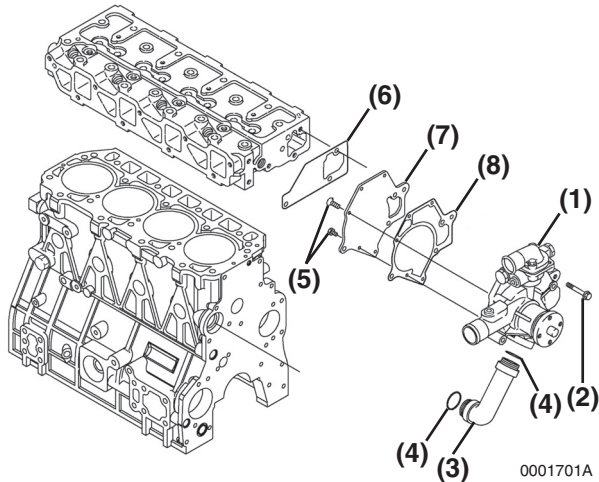

Figure 8-11
2. Remove coolant pump pipe (**Figure 8-11, (3)**) from engine block. Discard the O-rings (**Figure 8-11, (4)**).
3. Remove the bolts (**Figure 8-11, (5)**) holding the cover (**Figure 8-11, (7)**) on the pump. Discard the gasket (**Figure 8-11, (8)**).